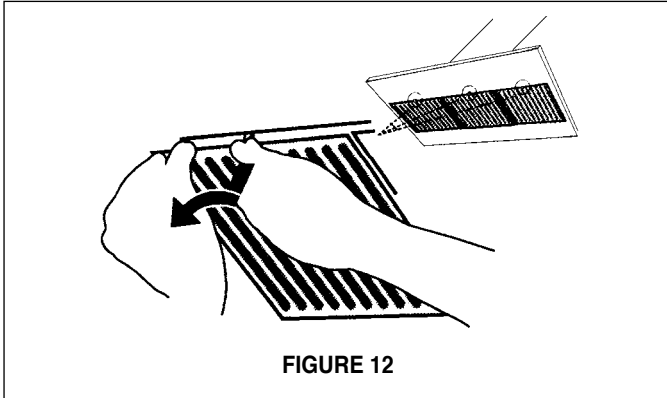

FIGURE 12
1. Install the grease filters using two hands by first pulling and turning the knob to the left so that the locking lever does not protrude from the filter (**as in FIGURE 12**). Insert the opposite end of the filter into the retaining channel. Insert the knob end next, then turn knob to the right to lock the filter into place.